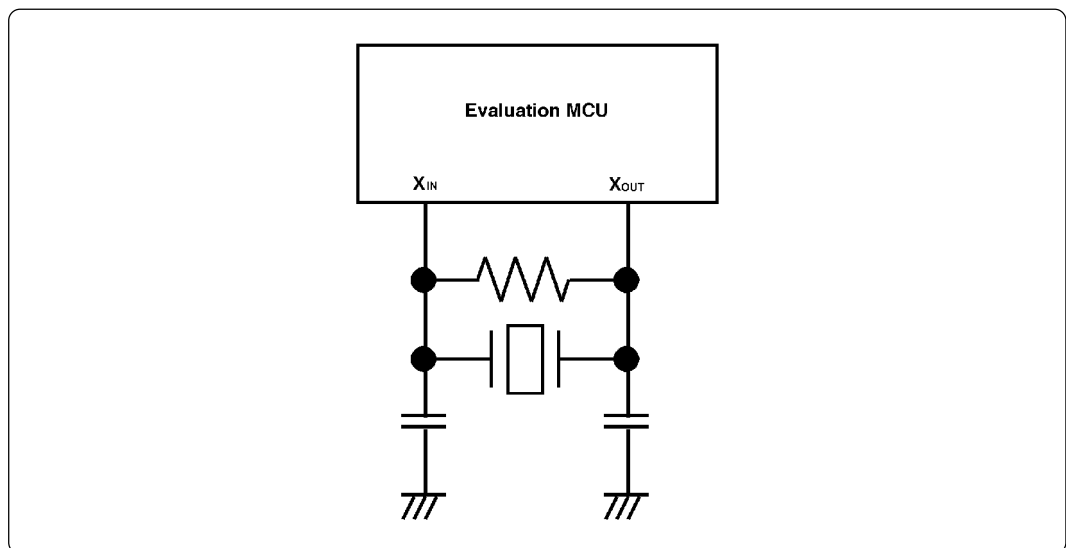

Figure 3.4 Circuit in which oscillation does not occur (same for X_{CIN}-X_{COUT})
- Make note of the fact that in the oscillator circuit shown in Figure 3.4 where a resonator is connected between the X_{IN} and X_{OUT} pins, oscillation does not occur because a flexible cable, buffer IC and other devices are used between the evaluation MCU and the target system. It is same for sub-clock oscillator circuits (X_{CIN} and X_{COUT}).
(2) Changing the Internal Oscillator Circuit of Emulation Pod